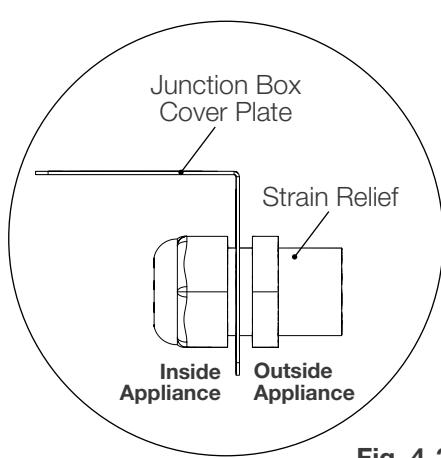

**Fig. 4-1**
- Remove the cover plate from the bottom right side of the appliance by removing the three screws (**Fig. 4-1**).